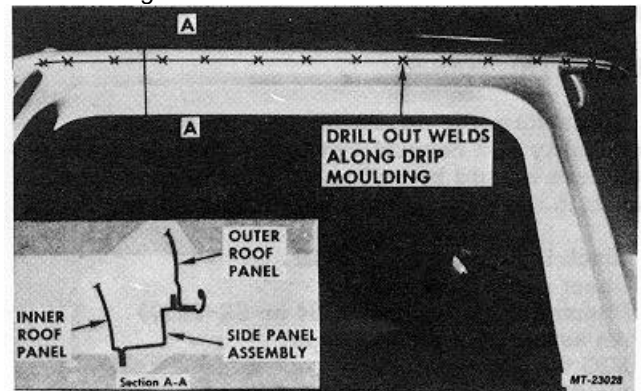

Fig. 39. Side Panel to Outer Roof Panel Spot Welds
3. Drill out spot welds along drip moulding from front to rear and around corner to end of side panel. Separate side panel from outer roof panel (Fig. 39).